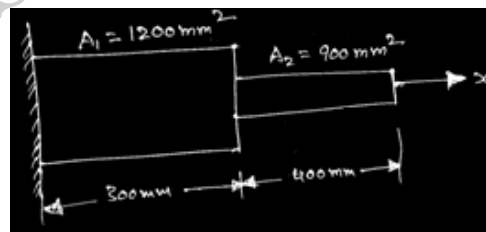

Fig: 6
8. Consider axial vibration of the steel bar shown in Fig: 6. Develop the global stiffness and mass matrices?